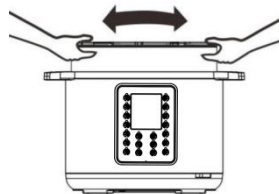

Figure 14
Be certain the inner receptacle, where the heating plate (14) is located, is clean and dry before inserting the Inner Pot (6) into the pressure cooker and adjust the pot left and right to ensure optimal contact between the Inner Pot and the heating plate (14) (Figure 14)
lid.(Figure 14)